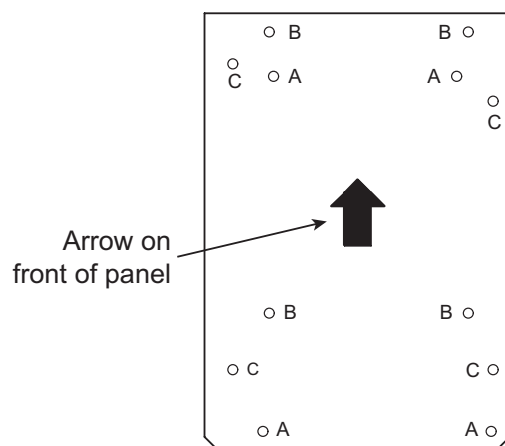

Figure 1 – Mounting Panel
5. Position the provided mounting panel with the arrow on the front of the panel pointing up. Position the replacement 50A66-843 ignition control board over the holes marked "A" in figure 1. Insert the replacement control stand-off fasteners into the holes in the mounting panel.
6. Insert the four provided stand-off fasteners into the back of the mounting panel in the holes marked "B" in figure 1. Insert the replacement control board assembly into the existing holes in the control box or blower panel.
7. Insert provided circuit breaker in series between the blue transformer wire connecting position 3 on the 12-pin connector to the transformer (TH), optional 4" blue wire provided for transformers that have a quick-connect terminal.
4. A. **When replacing original 63K8901 board in upflow or horizontal applications or downflow applications** – Look at the existing control board holes as if the unit were installed in the upflow position. Make a mark 1" to the right of each of the existing mounting holes. Position the provided mounting panel so that the holes marked "C" in figure 1, page 3 are
- B. **When replacing original 63K8901 board in downflow applications** – Look at the existing control board holes as if the unit were installed in the upflow position. Make a mark 5/8" ABOVE each of the existing mounting holes. Position the provided mounting panel so that the holes marked "C" in figure 1, page 3 are over the marks. Use the mounting panel as a template to drill 3/16" holes through each of the holes marked "A". Install the replacement control in the freshly drilled holes in the blower access panel. Use aluminum tape to seal the unused holes.
- C. **All other units** – Position the provided mounting panel so that the arrow on the front of the panel is pointing up. Position the replacement 50A66-843 ignition control board over the holes marked "A" in figure 1, page 3. Insert the replacement control stand-off fasteners into the holes in the mounting panel. **80UHG, 90UGF, G23, G26, GHR26, G32, GHR32, G40, G41, G50, G51, G60 and G61 units** – Insert the four provided stand-off fasteners into the back of the mounting panel in the holes marked "B" in figure 1. **80MGF, G24M and G27M units** – Insert the four provided stand-off fasteners into the back of the mounting panel into the holes marked "C" in figure 1. Insert the replacement control board assembly into the existing holes in the control box or blower panel.